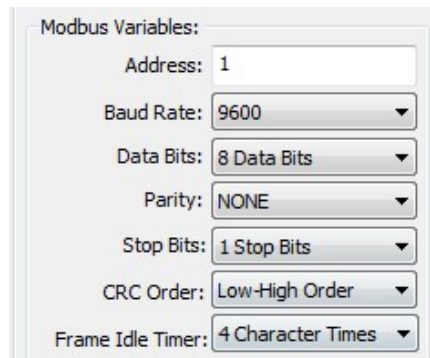

Figure 5.49 Modbus Number of frame intervals selected
1. Select "Detailed Design"->"Modbus variable"-> the drop-down box corresponding to"frame interval time", the interval time range is 4~10, as shown in Figure 5.49